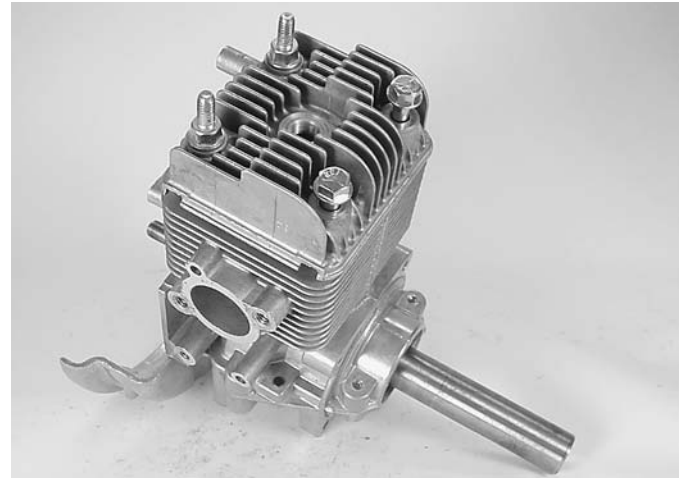

Fig. 73
1. Install cylinder head with new gasket (Figure 73). Ensure studed head bolts face MAG side of engine.